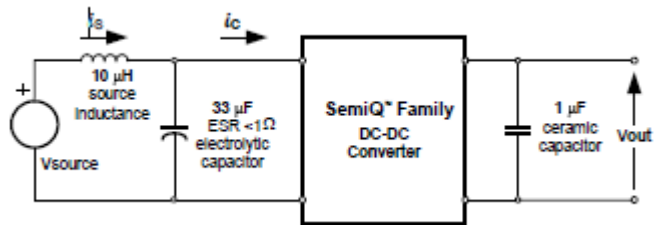

**Fig. 3.3V.14:** Test Setup for measuring input reflected ripple currents,  $i_c$  and  $i_s$
**Fig. 3.3V.1:** Available load current vs. ambient air temperature and airflow rates for SQ48T15033 converter with D height pins mounted vertically with Vin = 48V, air flowing from pin 3 to pin 1, and maximum FET temperature ≤ 120°C.
**Fig. 3.3V.1:** Available load current vs. ambient air temperature and airflow rates for SQ48T15033 converter with D height pins mounted horizontally with Vin = 48V, air flowing from pin 3 to pin 1, and maximum FET temperature ≤ 120°C.
**Fig. 3.3V.3:** Available load current vs. ambient air temperature and airflow rates for SQ48S15033 converter mounted vertically with Vin = 48V, air flowing from pin 3 to pin 1, and maximum FET temperature ≤ 120°C.
**Fig. 3.3V.4:** Available load current vs. ambient air temperature and airflow rates for SQ48S15033 converter mounted horizontally with Vin = 48V, air flowing from pin 3 to pin 1, and maximum FET temperature ≤ 120°C.
**Fig. 3.3V.5:** Efficiency vs. load current and input voltage for SQ48T/S15033 converter mounted vertically with air flowing from pin 3 to pin 1 at a rate of 300 LFM (1.5m/s) and  $T_a = 25^\circ\text{C}$ .
**Fig. 3.3V.6:** Efficiency vs. load current and ambient temperature for SQ48T/S15033 converter mounted vertically with  $V_{in} = 48\text{V}$  and air flowing from pin 3 to pin 1 at a rate of 200 LFM (1.0m/s).
**Fig. 3.3V.7:** Power dissipation vs. load current and input voltage for SQ48T/S15033 converter mounted vertically with air flowing from pin 3 to pin 1 at a rate of 300 LFM (1.5 m/s) and  $T_a = 25^\circ\text{C}$ .
**Fig. 3.3V.8:** Power dissipation vs. load current and ambient temperature for SQ48T/S15033 converter mounted vertically with  $V_{in} = 48\text{V}$  and air flowing from pin 3 to pin 1 at a rate of 200 LFM (1.0 m/s).
**Fig. 3.3V.9:** Turn-on transient at full rated load current (resistive) with no output capacitor at  $V_{in} = 48\text{ V}$ , triggered via ON/OFF pin. Top trace: ON/OFF signal (5 V/div.). Bottom trace: output voltage (1 V/div.). Time scale: 2 ms/div.
**Fig. 3.3V.10:** Turn-on transient at full rated load current (resistive) plus 10,000  $\mu\text{F}$  at  $V_{in} = 48\text{ V}$ , triggered via ON/OFF pin. Top trace: ON/OFF signal (5 V/div.). Bottom trace: output voltage (1 V/div.). Time scale: 2 ms/div.
**Fig. 3.3V.11:** Output voltage response to load current step-change (3.75 A – 7.5 A – 3.75 A) at  $V_{in} = 48\text{ V}$ . Top trace: output voltage (100 mV/div.). Bottom trace: load current (5 A/div.). Current slew rate: 0.1 A/ $\mu\text{s}$ .  $C_o = 1\ \mu\text{F}$  ceramic. Time scale: 0.2 ms/div.
**Fig. 3.3V.12:** Output voltage response to load current step-change (3.75 A – 7.5 A – 3.75 A) at  $V_{in} = 48\text{ V}$ . Top trace: output voltage (100 mV/div.). Bottom trace: load current (5 A/div.). Current slew rate: 5 A/ $\mu\text{s}$ .  $C_o = 450\ \mu\text{F}$  tantalum + 1  $\mu\text{F}$  ceramic. Time scale: 0.2 ms/div.
**Fig. 3.3V.13:** Output voltage ripple (20 mV/div.) at full rated load current into a resistive load with  $C_o = 10 \mu\text{F}$  tantalum +  $1 \mu\text{F}$  ceramic and  $V_{in} = 48 \text{ V}$ . Time scale:  $1 \mu\text{s}/\text{div}$ .
**Fig. 3.3V.15:** Input reflected ripple current,  $i_c$  (100 mA/div.), measured at input terminals at full rated load current and  $V_{in} = 48 \text{ V}$ . Refer to Fig. 3.3V.14 for test setup. Time scale:  $1 \mu\text{s}/\text{div}$ .
**Fig. 3.3V.16:** Input reflected ripple current,  $i_s$  (10 mA/div.), measured through  $10 \mu\text{H}$  at the source at full rated load current and  $V_{in} = 48 \text{ V}$ . Refer to Fig. 3.3V.14 for test setup. Time scale:  $1 \mu\text{s}/\text{div}$ .
**Fig. 3.3V.17:** Output voltage vs. load current showing current limit point and converter shutdown point. Input voltage has almost no effect on current limit characteristic.
**Fig. 3.3V.18:** Load current (top trace, 20 A/div., 20 ms/div.) into a 10 mΩ short circuit during restart, at Vin = 48 V. Bottom trace (20 A/div., 1 ms/div.) is an expansion of the on-time portion of the top trace.